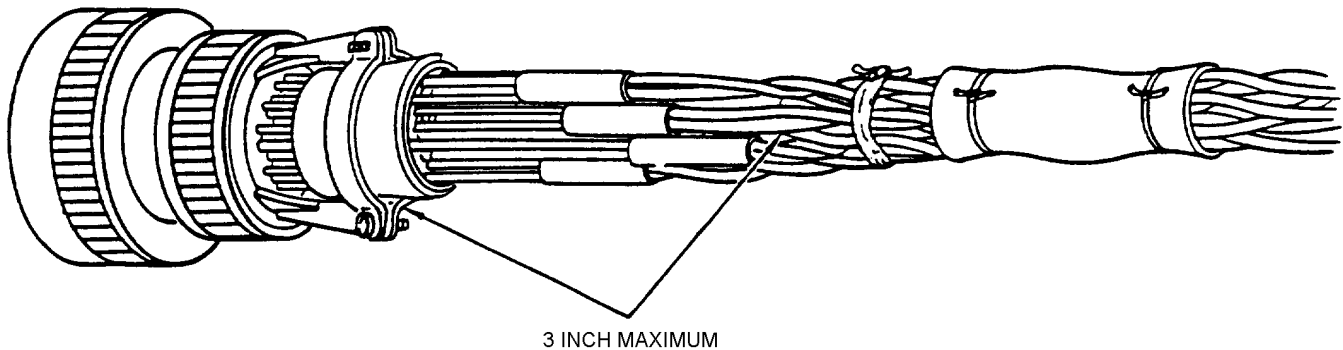
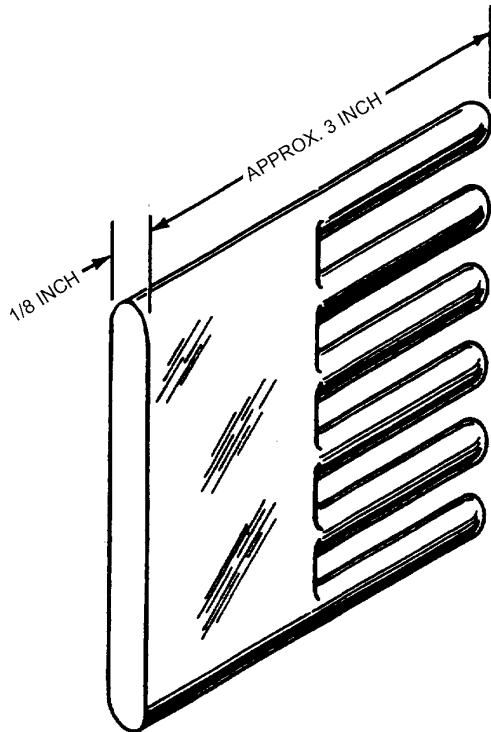

Figure 39. Comb Twisted Wires
Figure 40. Comb for Straightening
a. Comb out all wires, except when directed otherwise, so that wires will be parallel to each other in the group or bundle. Twisted wire terminating into a connector with a cable clamp may be untwisted from its original lay a maximum of 3 inches from clamp. Twisted wire may be closer than 3 inches as long as it does not cause interference with servicing of contacts, and is interwoven properly (Figure 39). A useful tool for combing out wires is shown in Figure 40. Make this tool from a piece of 1/8-inch nylon or other smooth insulating material. Be sure all sharp edges are rounded to protect wire insulation.